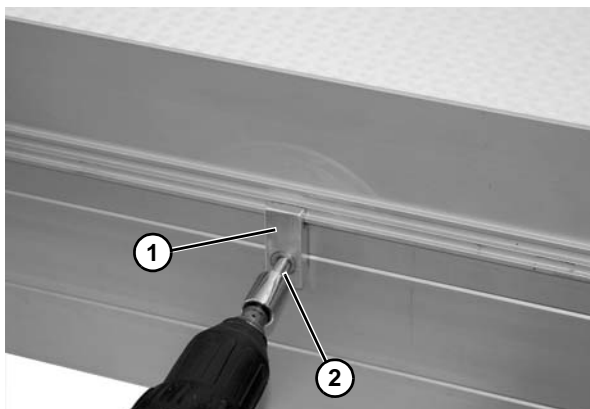

Figure 27
3. Position and hold bracket (**Figure 27, item 1**) to side rail. With a standard M6-1.0 or 1/4-20 screw, install screws (**Figure 27, item 2**) with cordless drill or equivalent. Do not fully tighten with drill.